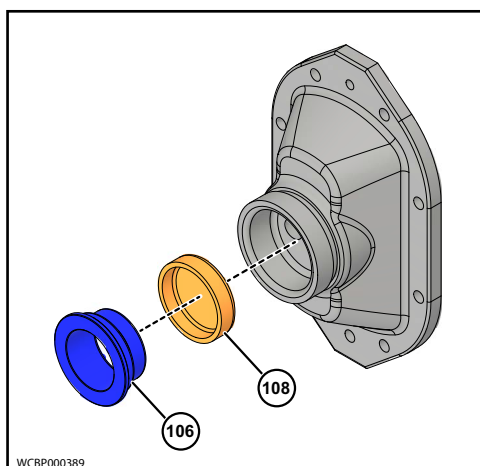

Figure 89 - Remove Diaphragm and Bushing
3. Remove the Diaphragm Bushing (106) and Rubber Diaphragm (108), as shown in Figure 89.
4. Remove and Discard the O-ring (109) from Diaphragm Bushing (106-Not shown) for the sizes 180-220-224-U2.